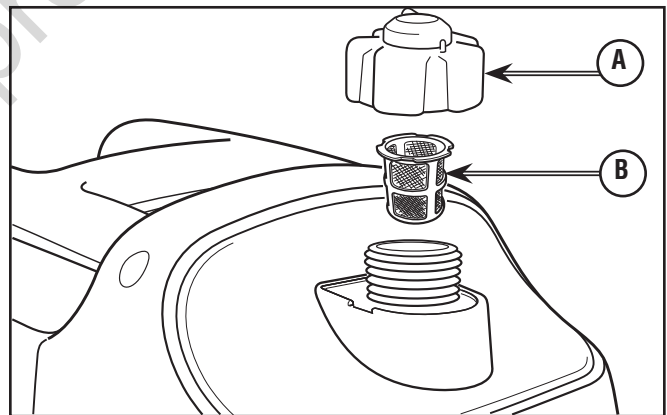

Figure 3
2. Remove the fuel cap (A, Figure 3) and fuel strainer (B).